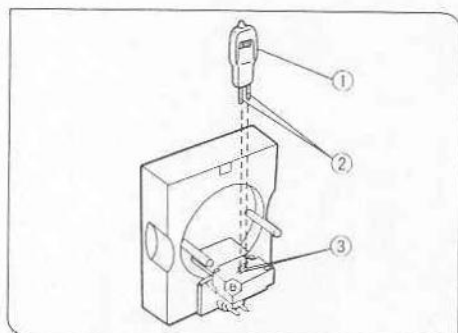

Fig. 3
1 Install the Halogen Bulb (Figs. 3, 4)
1. Holding the bulb ① with gloves or a piece of gauze, insert the bulb pins ② into the pin holes ③. (Fig. 3)